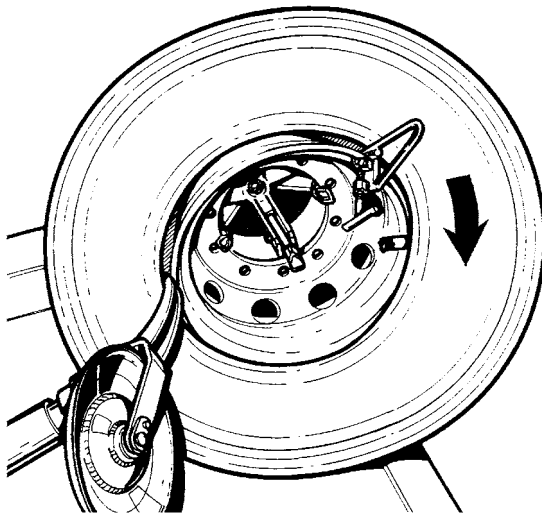

Fig.27
3. Lift the chuck arm and position the mounting hook or tubeless roller approximately 1.5 cm (1/2") to the inside of the rim edge and approximately 1.5 cm (1/2") away from the rim edge (fig.27).